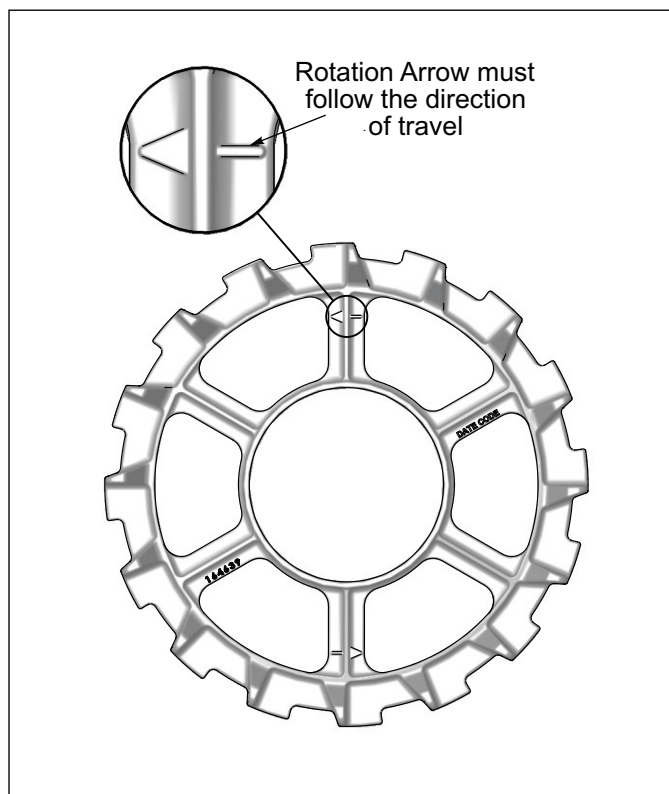

Figure 2-15: Crowfoot Wheel Rotation Arrow
1. Roller Assemblies are pre-assembled from the factory with stub shafts, bearings, shims, and retaining washers. **NOTE:** Crowfoot Wheel Rotation Arrow must follow the direction of travel. See **Figure 2-15**.